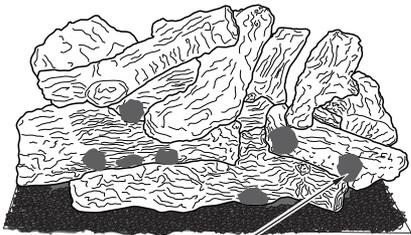

Figure 27 - Installing Ember Flakes
5. Place ember flakes around front and sides of burner and on burner ports (see Figure 27).